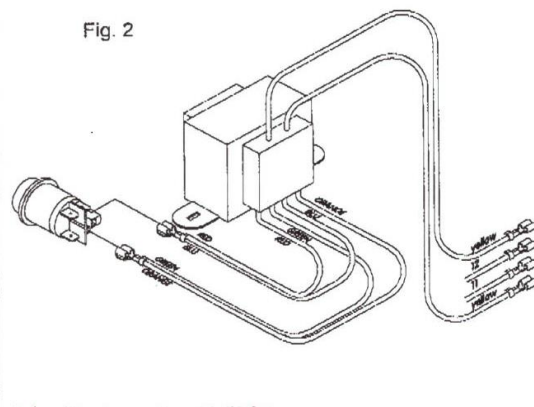
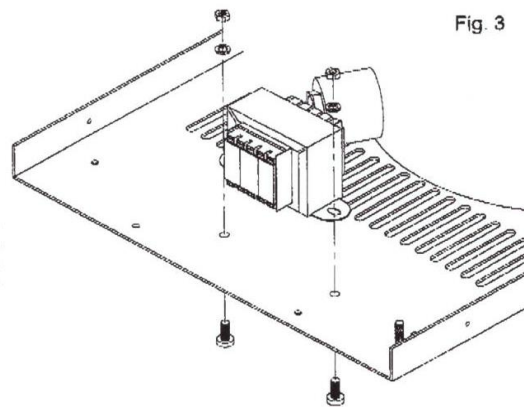

Fig. 2
Fig. 3
8. Remove the 2 transformer wires that are attached to the clip-on connectors of the display PC board (yellow wires). Fig.2
9. Remove the 4 transformer wires that are attached to the power switch (red, blue, and green, orange). Fig. 2
10. Remove the 2 screws that secure the transformer in place and remove the transformer. Fig. 3
11. Install the new transformer (Fig.3) and reconnect the wires to their respective slip-on connectors as outlined in steps 8 and 9. (Fig. 2)